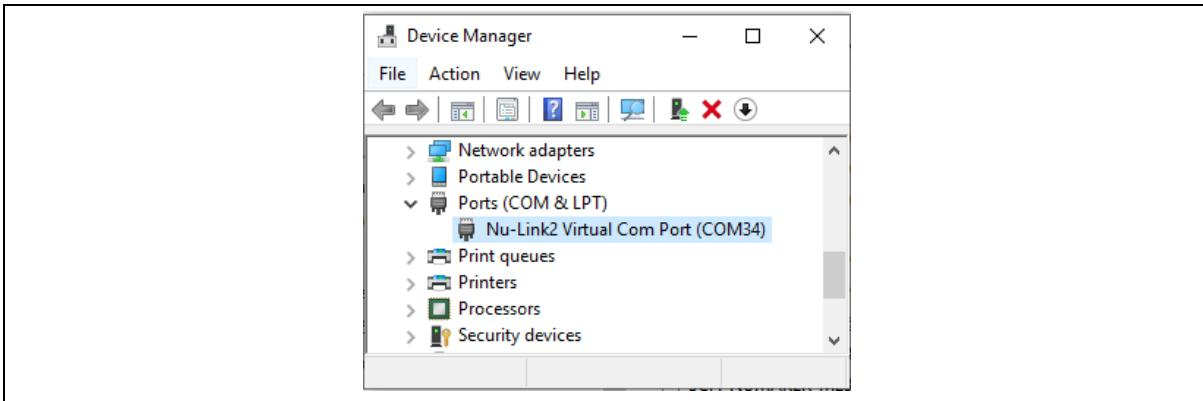

Figure 4-5 Device Manger
3. Find the “Nu-Link2 Virtual Com Port” on the Device Manager as Figure 4-5.